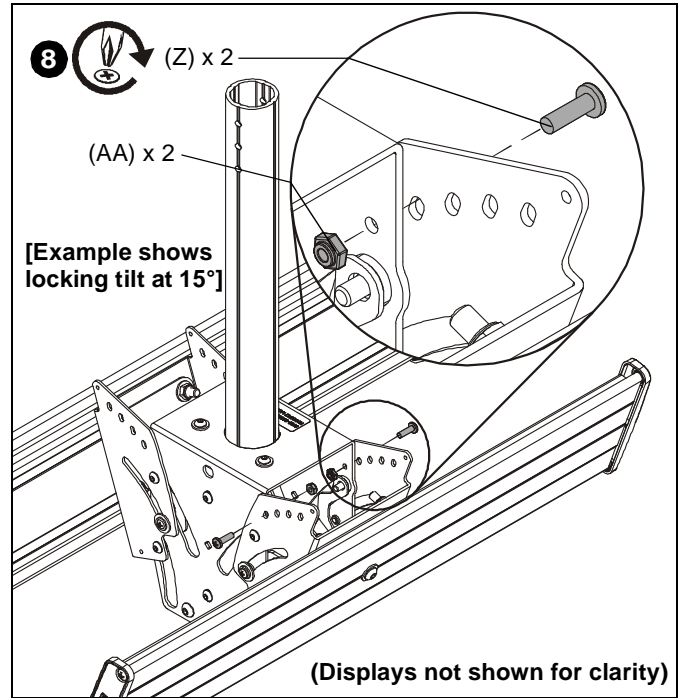

Figure 12
8. If using the tilt settings of 0°, 5°, 10° or 15°, insert two 10-24 x 1/2" Phillips head screws (Z) and two 10-24 lock nuts (AA) to lock mount at the specific tilt. (See Figure 12)